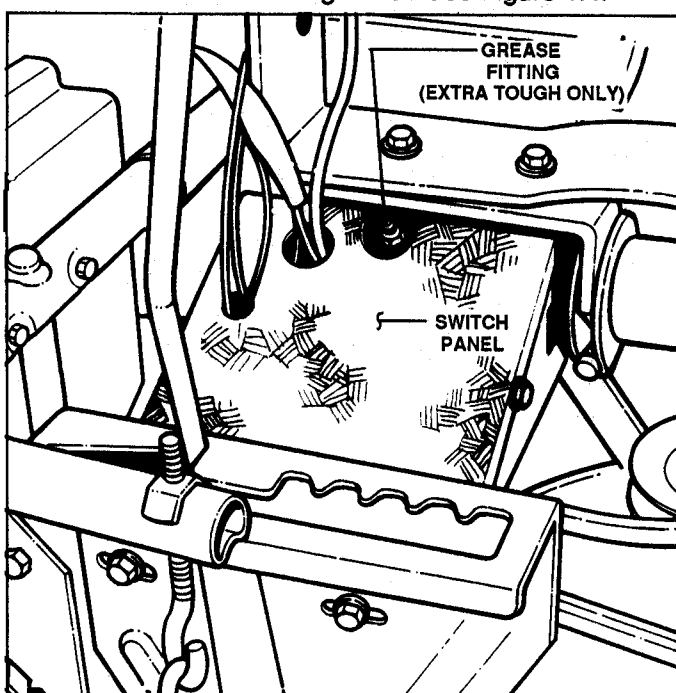

FIGURE 1.4
- D. MAIN TUBE PIVOT: Lubricate through fitting with 2 shots of grease. See Figure 1.4.